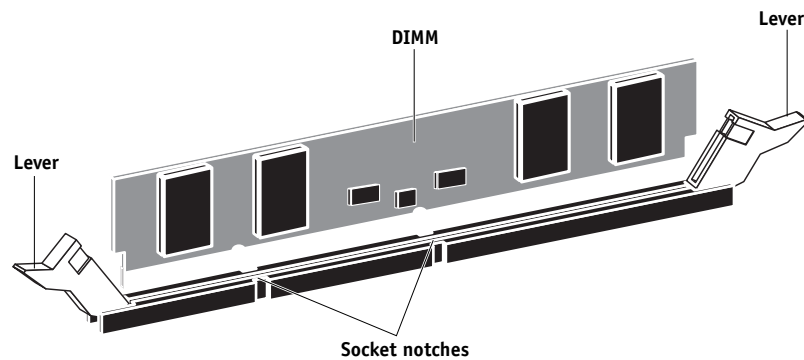

FIGURE 4-19 Releasing a DIMM
1. To release a DIMM, push outward on the levers on each side of the DIMM (see Figure 4-19).